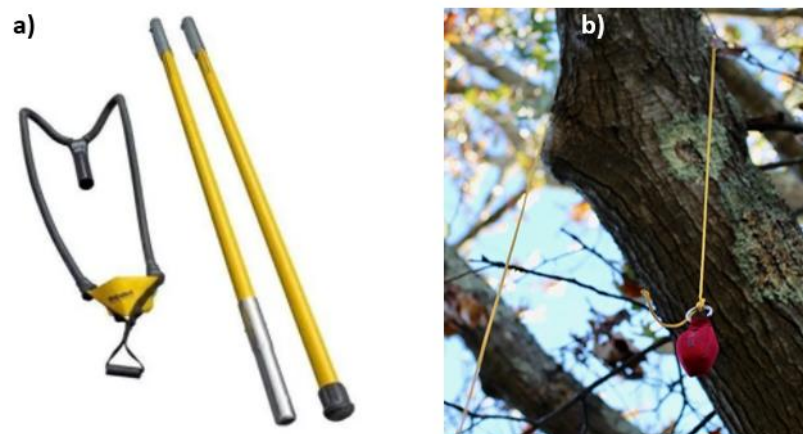

Figure 6. a) catapult and b) throw weight and line
- 1) With a catapult/throw weight: A rope/line should be thrown over a branch a minimum of 5-8 m above the ground. The branch should be alive and sturdy, as smaller or dead branches could snap under the weight of the trap. A throw weight (300-500gr) can be tied to one end of the rope (see Figure 6) and once the suitable branch has been identified, the line can be set using a catapult (see figures 6a/b).